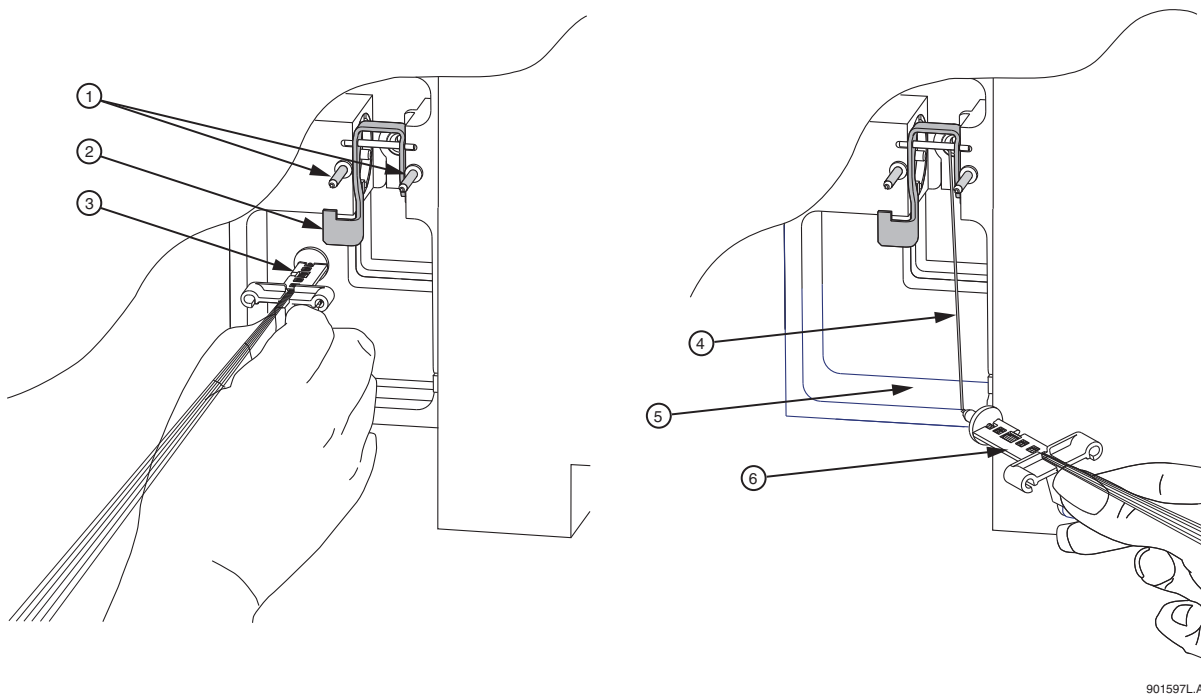

Figure 9.3 Removing/Replacing the Array Fitting
7. Lift the eject lever (Figure 9.3) to release the array fitting.
8. Grasp the array fitting tab (Figure 9.3) and then:
16. While holding the array fitting tab, align the array fitting with the manifold opening and guide pins. Push the fitting into the manifold until it is completely seated against the bases of the guide pins (Figure 9.3).